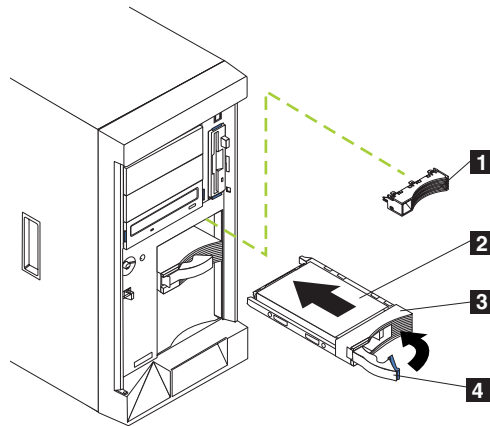
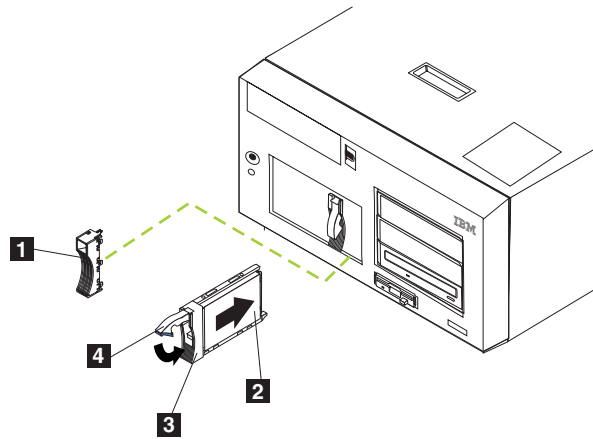

Figure 73. Replacing a hard disk drive in a hot-swap drive bay (Model 25T)
Figure 74. Replacing a hard disk drive in a hot-swap drive bay (Model 25T with the rack-mount conversion feature)
5. Install the replacement hot-swap hard disk drive in the hot-swap drive bay (see Figure 73 and Figure 74):